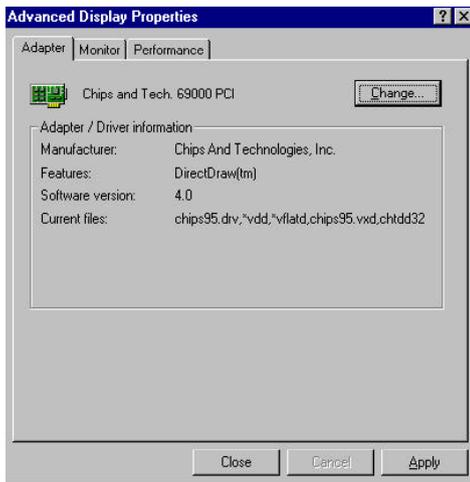

figure 6
- Once the installation is complete, the *Advanced display Properties* window will reappear. Show as figure 6: